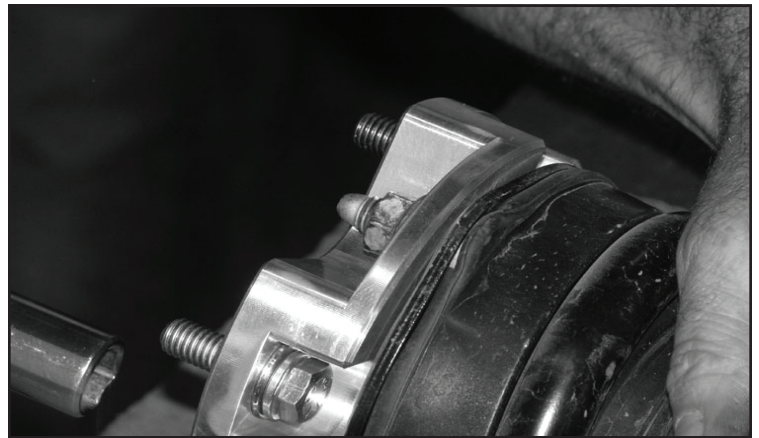

FIGURE 11 - STEP 10
10. Install the FT44254 onto the factory coilover assembly using the factory nuts and supplied thread lock. Torque to 52 ft-lbs. **SEE FIGURE 11**